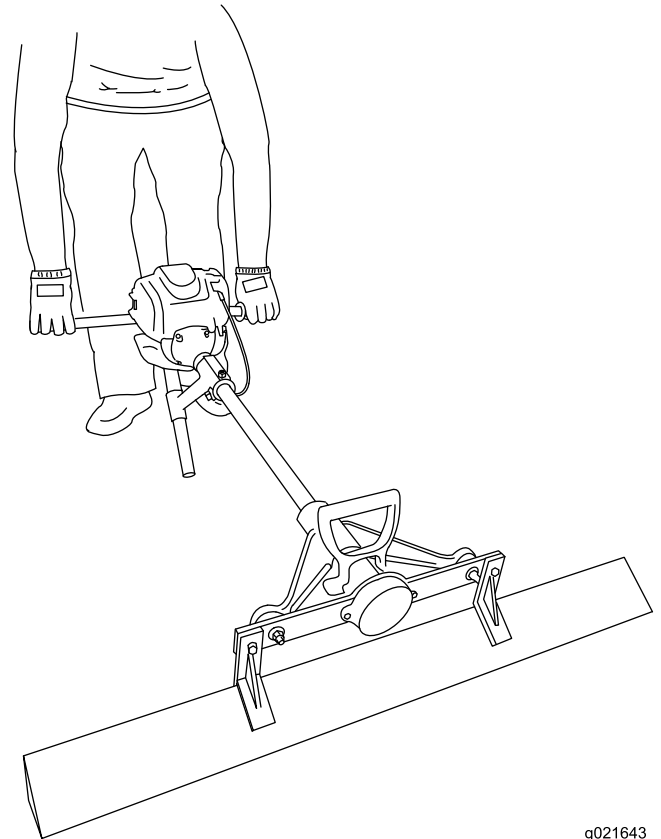

Figure 14
- Use the resting position when leaving the machine. (Figure 14). Never leave the engine running while the machine is in the rest position. Always set the machine on a flat surface.